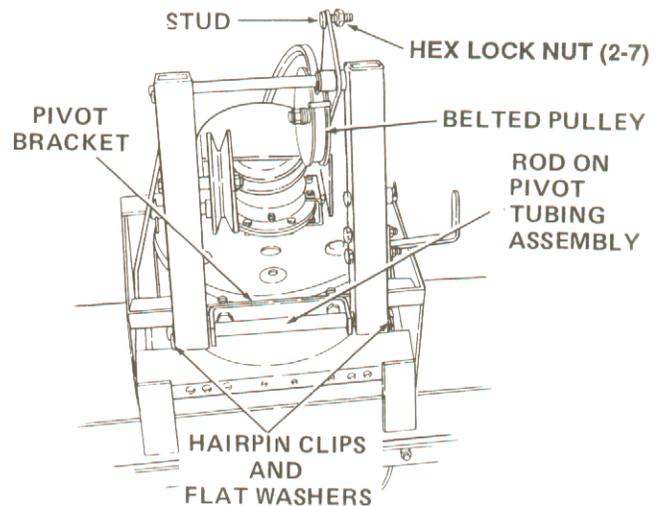

Figure 10
4. Install pivot tubing assembly (1-1) onto pivot bracket as follows. Refer to Figure 10.
- b. Place pivot tubing assembly over pivot bracket as shown in Figure 10. Belted pulley should be on RIGHT side.
5. Loosely install one hex lock nut (2-7) on stud on idler bracket. Do not tighten. Refer to Figure 10.